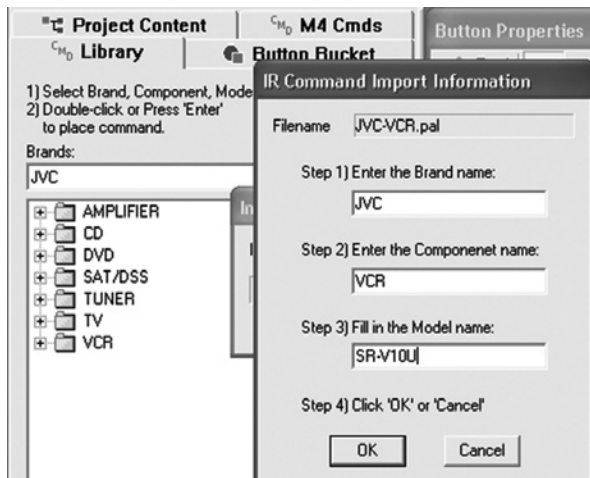

Figure 75 Brand, Component and Model Fields for .pal Command Sets
- Right-click in the white space under the last component name in the list (i.e. CD2) and left-click **Import Xantech ".pal" file(s)...** in the pop-up. Refer to **Figure 75**.
- An **IR Command Import Information** pop-up occurs, listing basic naming information derived from the .pal file. You would usually leave **Step 1** and **2** fields as is (although you can change them), but you must type in a **Model name** of the component in the Step 3 field. Refer to **Figure 75**. Click **OK**.